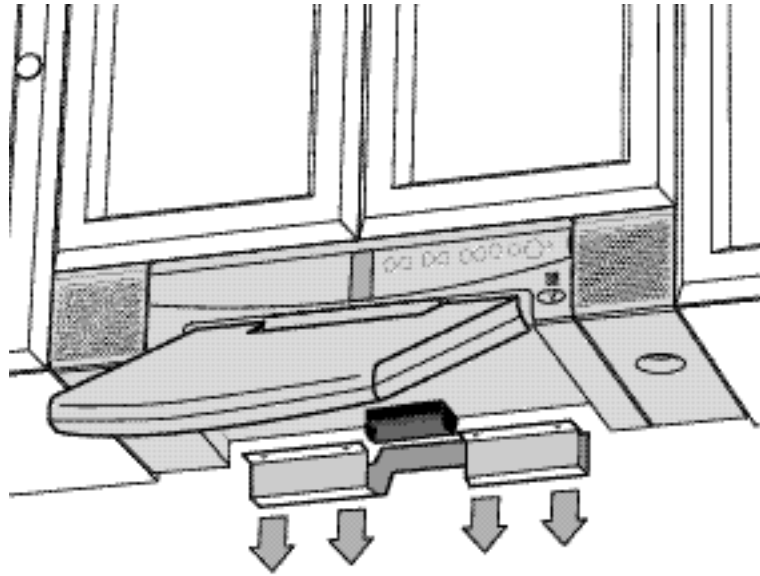

FIGURE 2. Removing the cable tray
1. At the bottom rear of the unit, remove the cable tray (3 push fasteners, Figure 2).